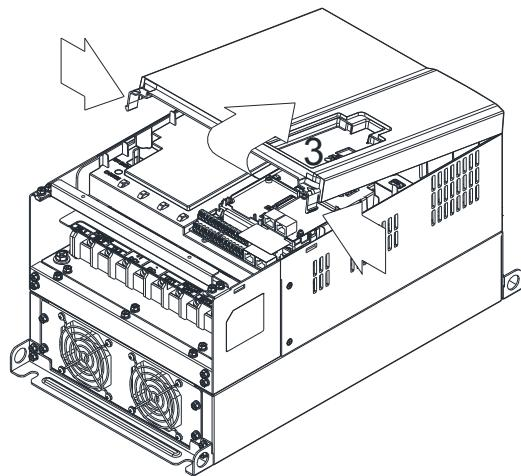

Figure 2
2. (Figure 2) Loosen screw 3, press the tab on the right and the left to remove the cover. Screw 3 『Torque : 6~8kgf-cm (5.2~6.9lb-in)』